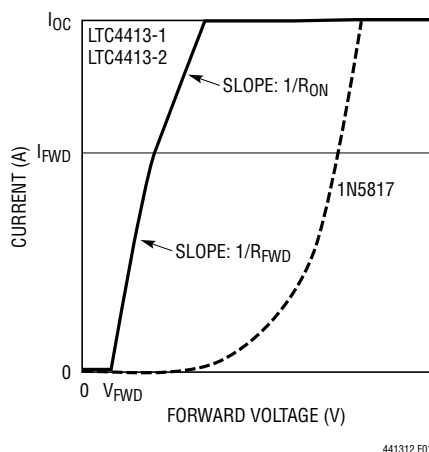

Figure 1. The LTC4413 vs the 1N5817
The LTC4413-1/LTC4413-2 are described with the aid of the Block Diagram. Operation begins when the power source at  $V_{INA}$  or  $V_{INB}$  rises above the undervoltage lockout (UVLO) voltage of 2.4V and the corresponding control pin ENBA or ENBB is low. If only the voltage at the  $V_{INA}$  pin is present, the internal power source ( $V_{DD}$ ) is supplied from the  $V_{INA}$  pin. The amplifier (A) pulls a current proportional to the difference between  $V_{INA}$  and  $V_{OUTA}$  from the gate ( $V_{GATEA}$ ) of the internal PFET (PA), driving this gate voltage below  $V_{INA}$ . This turns on PA. As  $V_{OUTA}$  pulls up to a forward voltage drop ( $V_{FWD}$ ) of 15mV below  $V_{INA}$ , the LTC4413 regulates  $V_{GATEA}$  to maintain the small forward voltage drop. The system is now in forward regulation and the load at  $V_{OUTA}$  is powered from the supply at  $V_{INA}$ . As the load current varies,  $V_{GATEA}$  is controlled to maintain  $V_{FWD}$  until the load current exceeds the transistor's (PA) ability to deliver the current as  $V_{GATEA}$  approaches GND. At this point, the PFET behaves as a fixed resistor,  $R_{ON}$ , whereby the forward voltage increases slightly with increased load current. As the magnitude of  $I_{OUT}$  increases further, (such that  $I_{LOAD} > I_{OC}$ ) the LTC4413-1/LTC4413-2 fixes the load current to the constant value  $I_{OC}$  to protect the device. The characteristics for parameters  $R_{FWD}$ ,  $R_{ON}$ ,  $V_{FWD}$  and  $I_{OC}$  are specified with the aid of Figure 1, illustrating the LTC4413-1/LTC4413-2 forward voltage drop versus that of a Schottky.